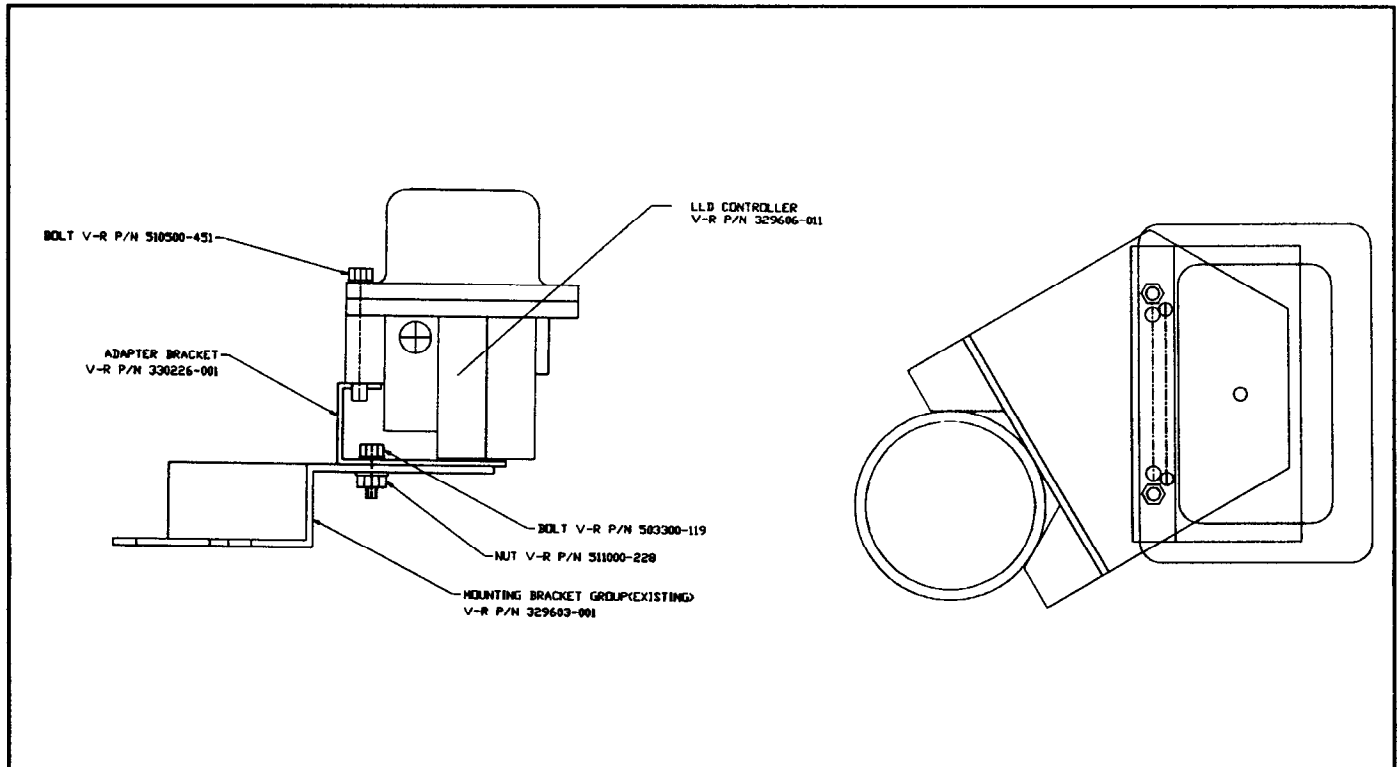

Figure 1. Line Leak Detector Adaptor Bracket Installation
1. Using the two (2) hex head bolts and two (2) nuts, attach the adaptor bracket to the existing bracket. See Figure 1, "Line Leak Detector Adaptor Bracket Installation."